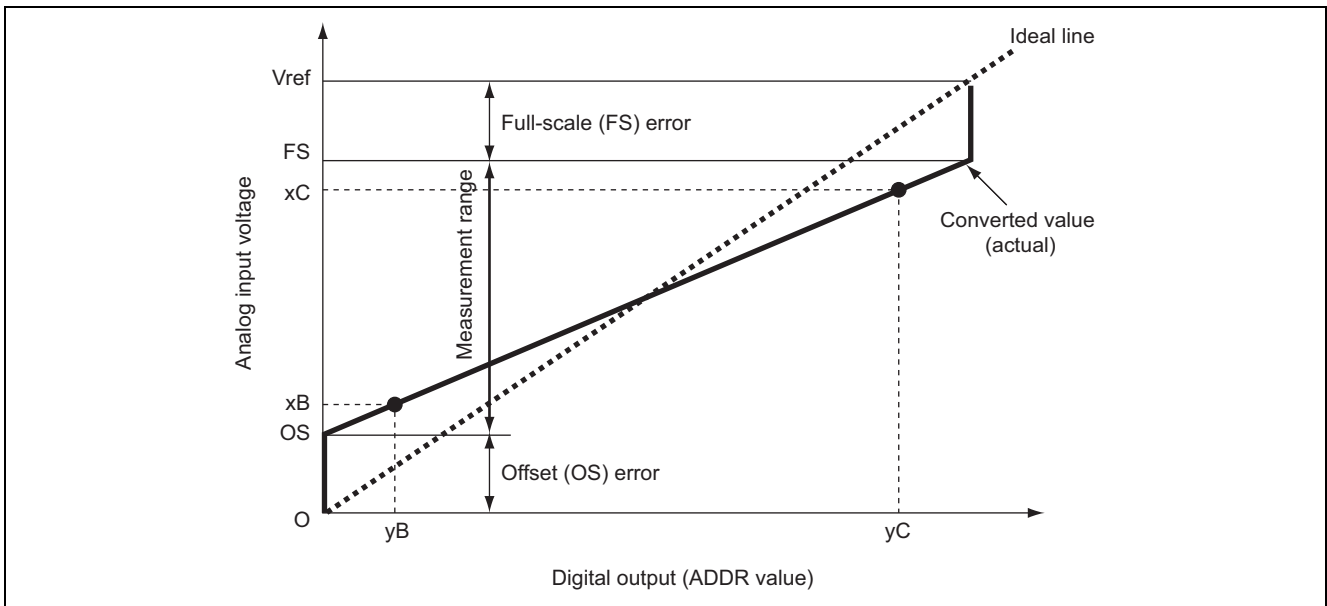

Figure 6.5 Relation between Analog Level (to be Measured) and Digital Values (in ADDR)
Figure 6.5 shows the relation between digital values (ADDR values) and analog levels (to be measured) for the $\Delta\Sigma$ A/D converter.
1. Determine values at the four points A, B, C, and D shown in figure 6.5.